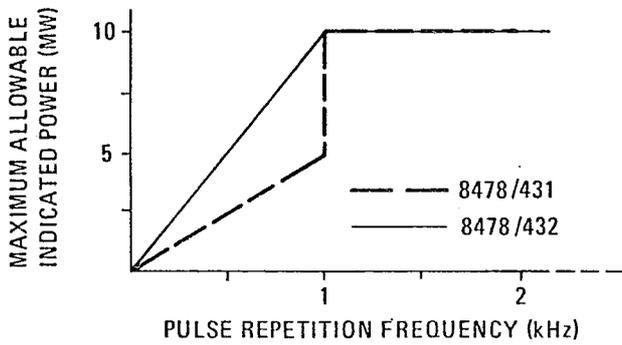

Figure 1. Maximum Power Meter Reading vs PRF for Pulses Shorter than 250  $\mu$ sec
mW, 250 μs pulse contains 10 W-μs of energy.) Pulses longer than 250 μs are allowed to contain more energy but peak power must not exceed 200 watts. Figures 1 and 2 interpret these limits in graphical form. (For lack of space, the mount nameplate lists only a 5 W-μs limit, a rating which applies to the 8478B/432A combination.)
19. The limitations of this combination are basically the same as the 8478B/432 with the exception that at pulse repetition rates less than 1 kHz, energy per pulse must not exceed 5 W- $\mu$ s and peak power must not exceed 10 mW. These limits are also interpreted in Figures 1 and 2.